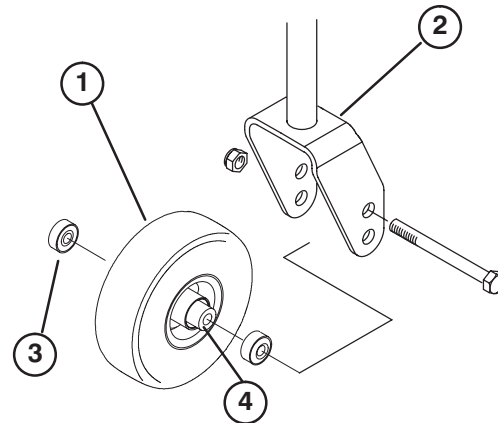
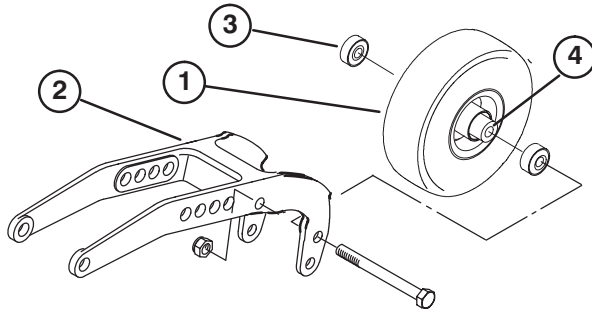

Figure 78
Figure 79
1. Remove locknut from capscrew holding castor wheel assembly between front castor fork (Fig. 78) or rear castor pivot arm (Fig. 79) Grasp castor wheel and slide capscrew out of fork or pivot arm.